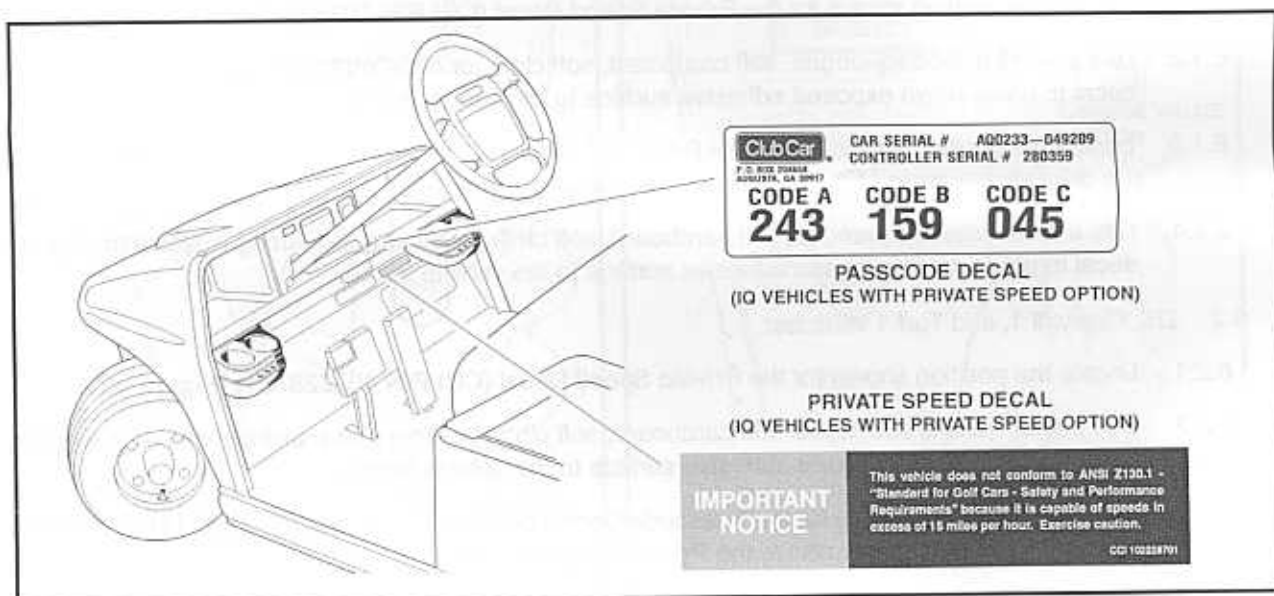

Figure 15 Apply Decals (DS, Carryall 1, and Turf 1 Vehicles)
- 6.2.1. Locate the position shown for the Private Speed Decal (CCI P/N 102228701) (**Figure 15**).
- 6.2.3. Locate the position shown for the Passcode Decal (CCI P/N 102249801) (**Figure 15**), underneath the dash and immediately above the Private Speed Decal.